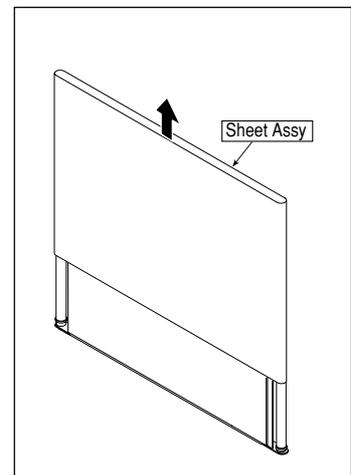

Fig. 11
2. Remove the Sheet Assy as shown in Figure 11.